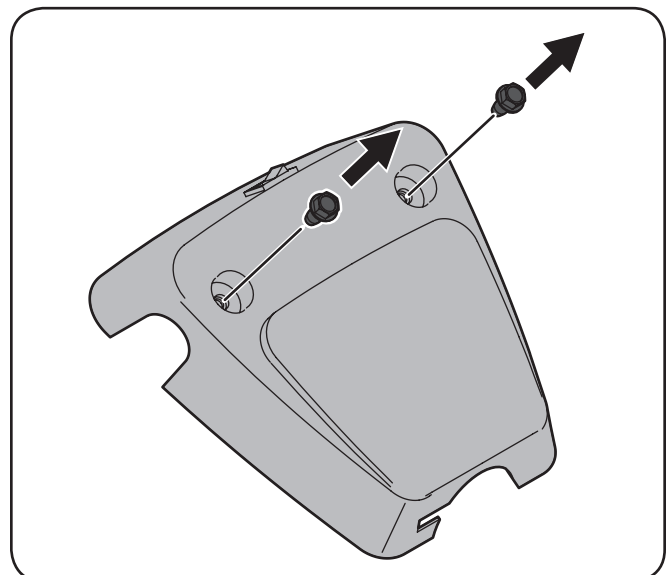

Figure 3-2
2. Using the $\frac{3}{8}$ " socket, remove the hex washer screws from the panel. See Figure 3-2.